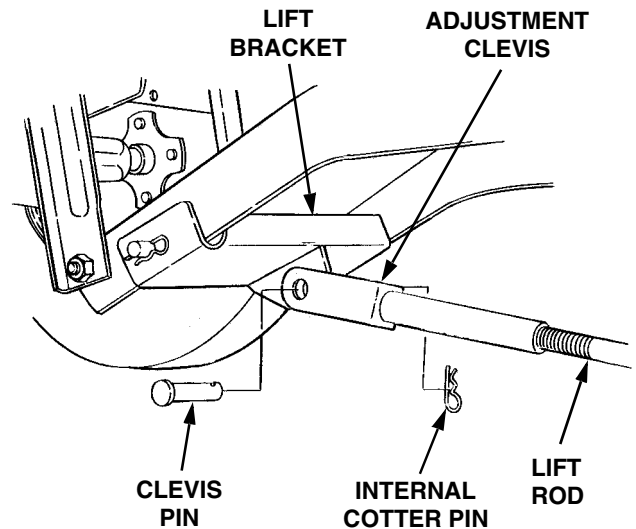

Figure 13
5. Turn the adjustment clevis on the lift rod to align with the hole in the lift bracket tab, then insert the clevis pin (9) and secure with an internal cotter pin (14). See Figure 13.
5. Attach the adjustment clevis (4) to the lift bracket (8) by aligning the holes and inserting the clevis pin (9). Secure with the internal cotter pin (14). Refer to Figure 13.